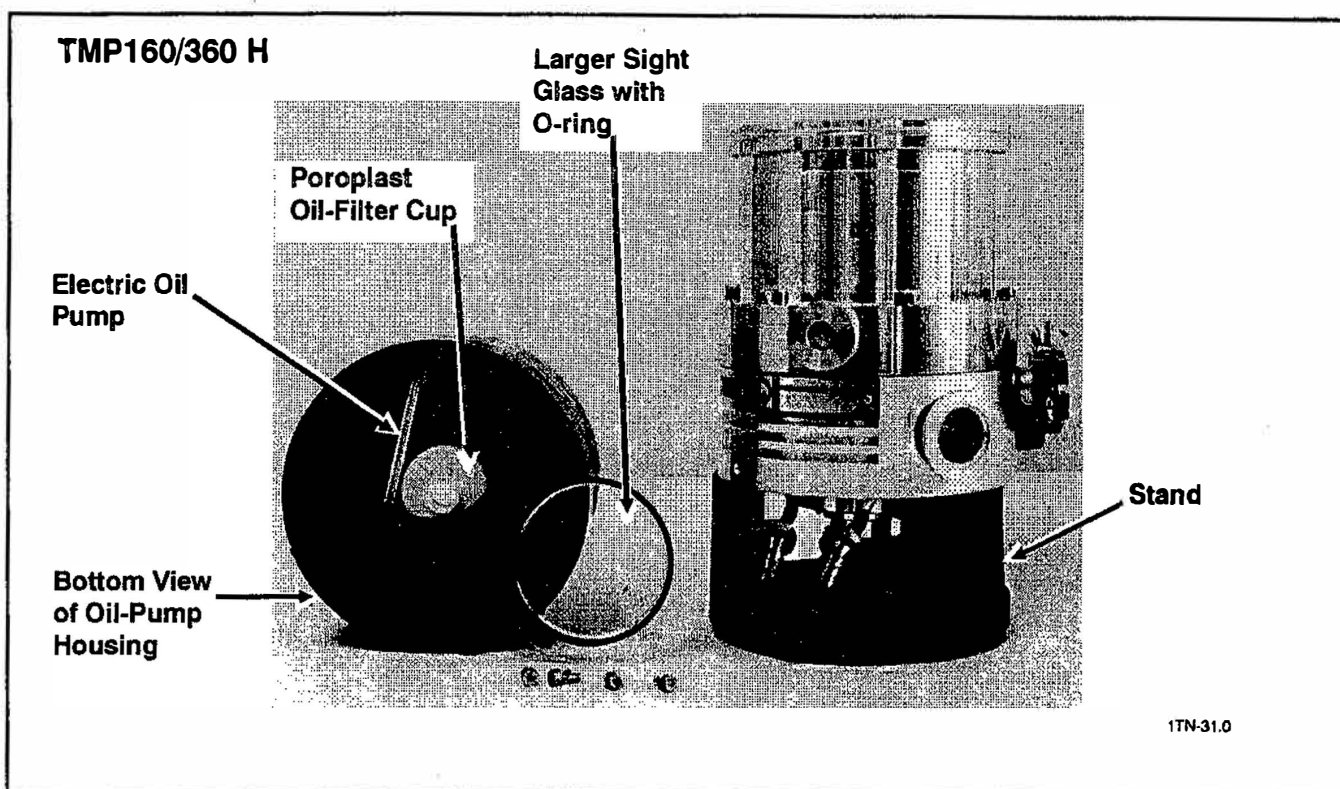

Figure 4-5. TMP150 H with Oil-Pump Housing Removed
2. Remove the three capscrews to remove the black oil-pump housing from the pump. After removing this housing, you can set the turbopump on the stand that was supplied with the pump for this purpose (see Figure 4-5).
4. Disassemble and clean the oil-pump housing as follows (see Figure 4-5):
- c. Clean the acrylic sight glass, the white poroplast oil-filter cup, and the oil reservoir with a suitable solvent such as petroleum ether (boiling range 50-70°C). Freon TF can also be used but we don't recommend it because of environmental concerns. If you can't get the white oil-filter cup clean, use a new one (P/N 200-17-773) during reassembly(see Figure 4-5).